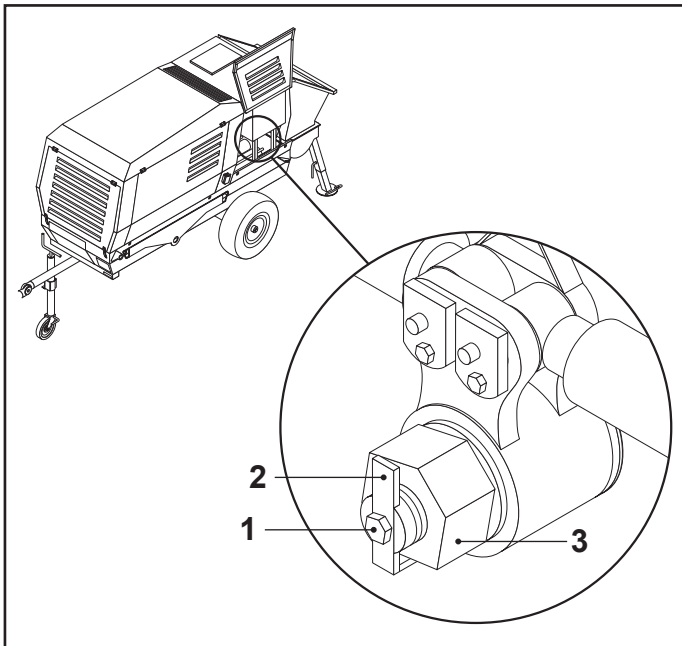
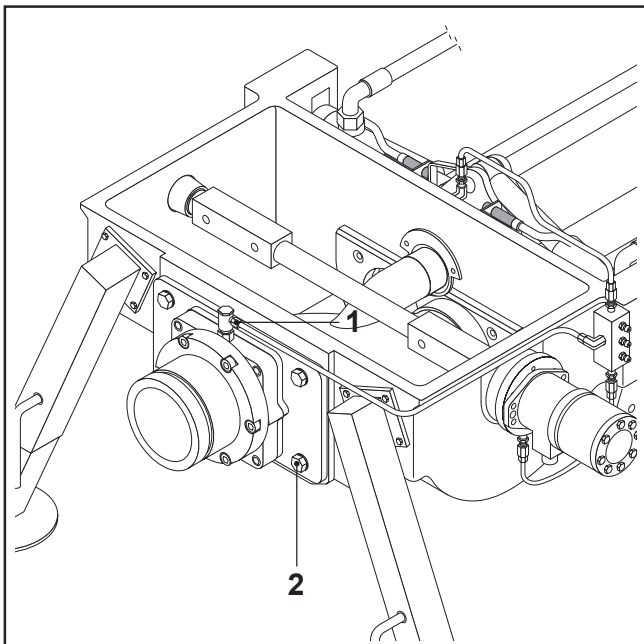

FIG.58
FIG.59
- Remove the TE screw (FIG. 58-REF. 1), remove the lever locking the adjustment nut (FIG. 58-REF. 2) and loosen or tighten the adjustment nut as required (FIG. 58-REF. 3); usually it is sufficient to turn the nut by 60°-120°.
- Put back the nut-locking lever (FIG. 58-REF. 2) and fasten it with the screw (FIG. 58-REF. 1).
- Remove the rigid grease fitting (FIG. 59-REF. 1) on the greasing flange.
- Loosen the 4 TE screws (FIG. 59-REF. 2) and remove the delivery flange.
- Remove the TE screw (FIG. 58-REF. 1), remove the lever locking the adjustment nut (FIG. 59-REF. 2) and remove the adjustment nut (FIG. 59-REF. 3).